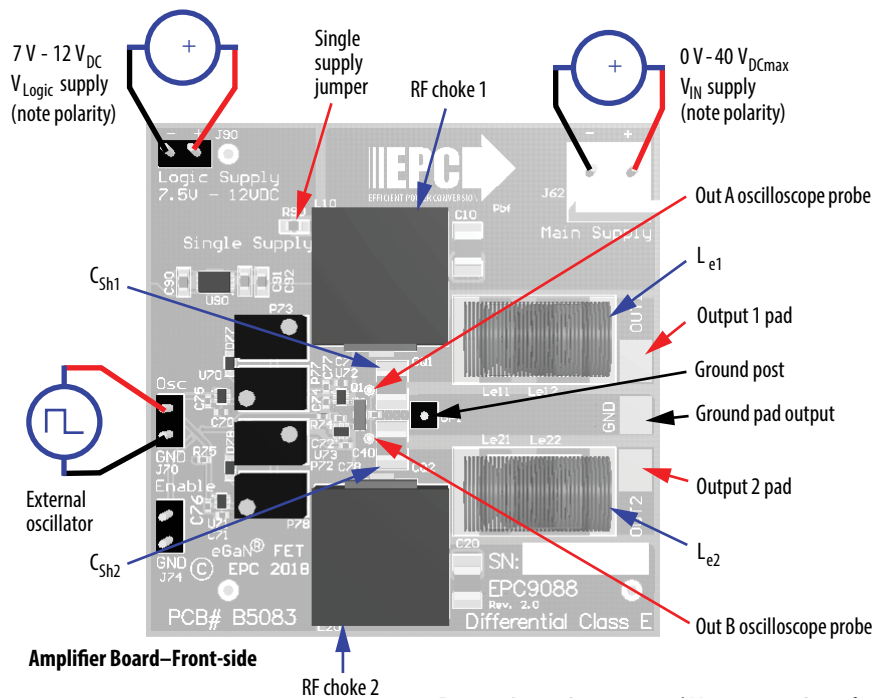

Figure 5: Proper Connection and Measurement Setup for the EPC9088 Amplifier Board.
2. With power **off**, connect the **main** input power supply bus to J62 as shown in figure 5. Note the polarity of the supply connector. Set the voltage to 0 V.
3. With power **off**, connect the logic input power supply bus to J90 as shown in figure 5. Note the polarity of the supply connector. Set the voltage to between 7 V and 12 V.
NOTE. When measuring the high frequency content switch-node, care must be taken to avoid long ground leads. An oscilloscope probe connection (preferred method) has been built into the board to simplify the measurement of the Drain-Source Voltage (shown in figure 5). The choice of oscilloscope probe needs to consider tip capacitance where this will appear in parallel with the shunt capacitance thereby altering the operating point of the amplifier.